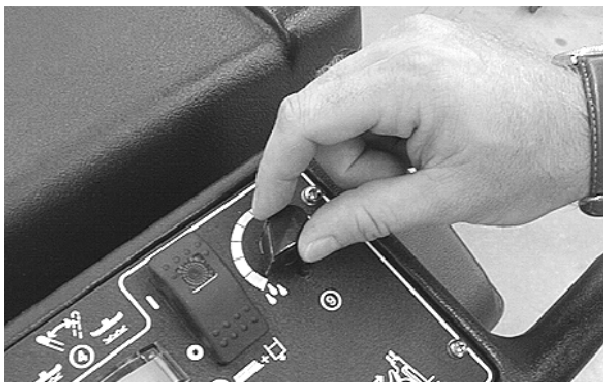

FIG. 12
5. Turn solution flow control knob to maximum for 30 seconds, then adjust to desired flow (Figure 12).